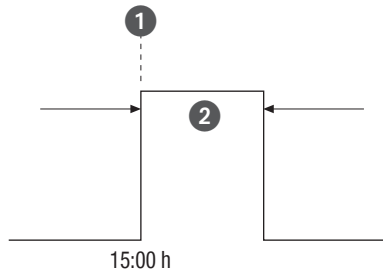

Fig. 30: Pulse switching
- (Fig. 30/①) Start time
- (Fig. 30/②) Duration = switching ON